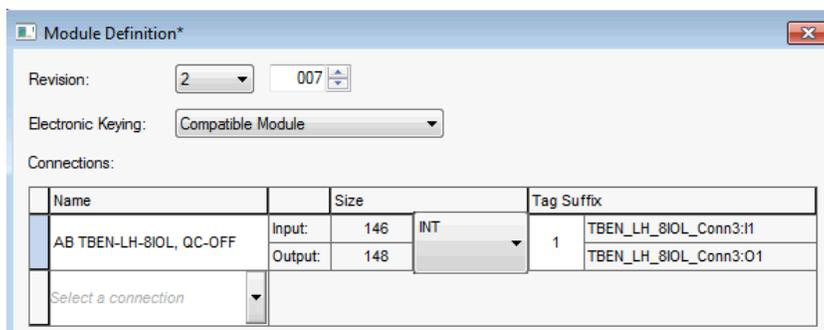

Figure 4.11 – QC_OFF Connection setup
- Use “*TBEN-LH-8IOL_QC_OFF*” connection from the *Connection Name*” drop down list and select INT data format at the *Size* drop down list, per Figure 4.11